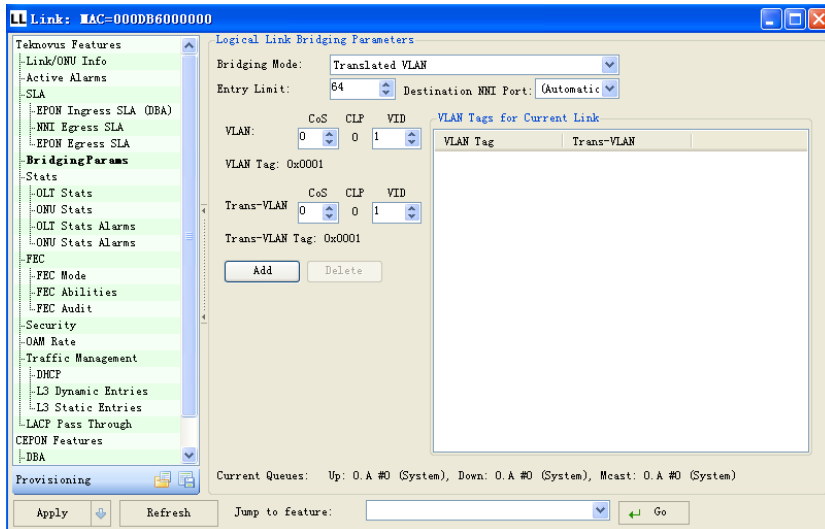

Figure 8-23 Bridging Mode Selection
2. In the Bridging Mode, select Translated VLAN to display the configuration parameters shown in the Figure 8-23;